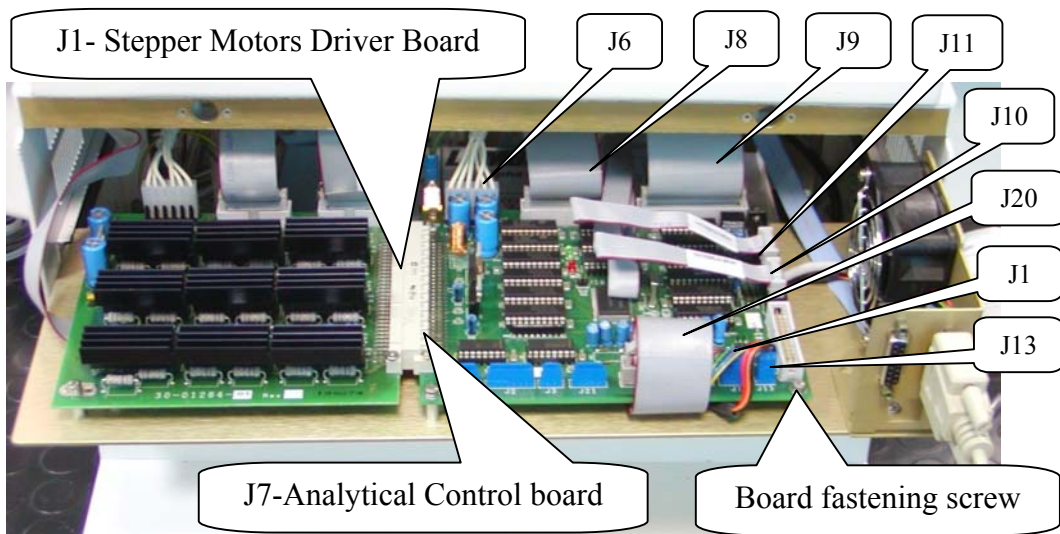
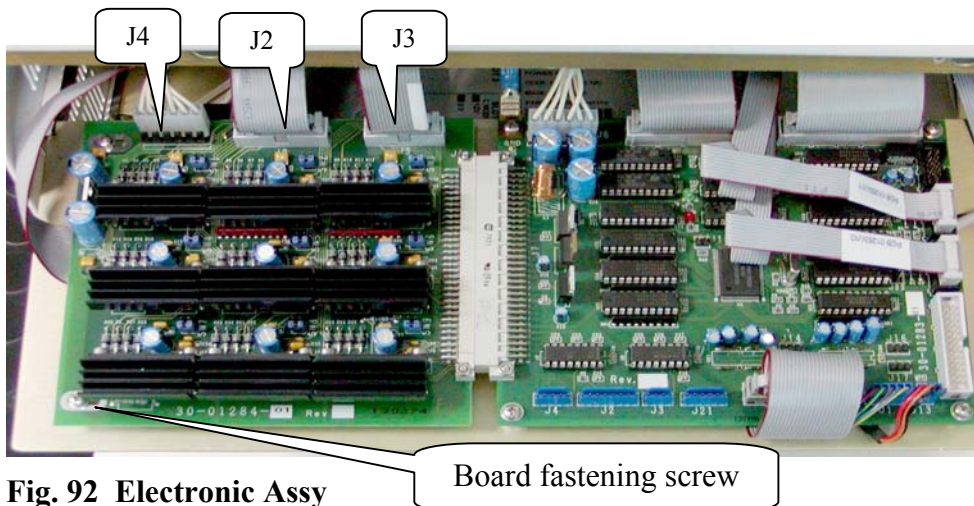

Fig. 91 Electronic Assy
Fig. 92 Electronic Assy
2. Take out the Electronic Assy as showed (Fig. 3), disconnect connectors J1, J6, J8, J9, J10, J11, J13, J20 and the ground wire from the Analytical Control board (Fig. 91).
2. Take out the Electronic Assy as showed (Fig. 91) and disconnect connectors J2, J3, J4 (Fig.92).